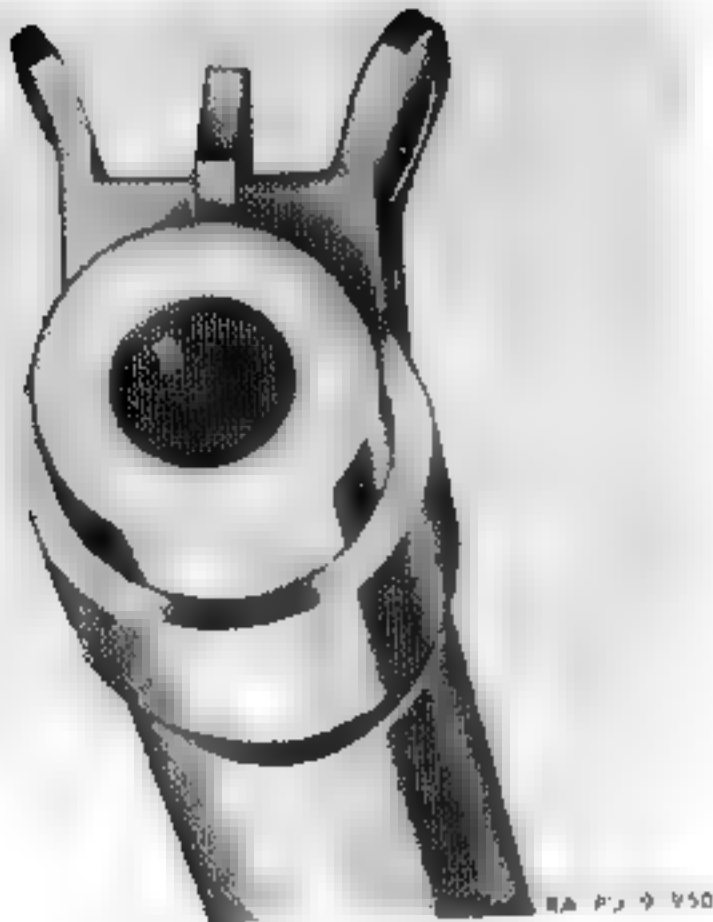

Figure 79. Muzzle end of barrel showing counterbore.
- (g) All rebuilt carbines must be counterbored at the muzzle end of the barrel (Fig. 79). This counterbore improves the accuracy of the carbine and is intended to eliminate